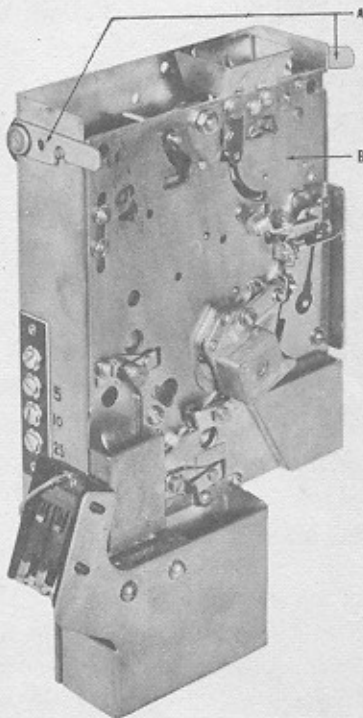

FIG. 7—Coin Mechanism
1. Lift pawl (A-Fig. 7) on each side of slug rejector housing, pull top of slug rejector (B-Fig. 7) forward, lift up and forward to remove.
- D. Set slug rejector to reject 5c coins by removing cover plate on slug rejector (E-Fig. 7). Loosen screw (D-Fig. 7) and insert 5c coin stop (C-Fig. 7) under head of screw (D-Fig. 7). Tighten screw and replace cover plate.